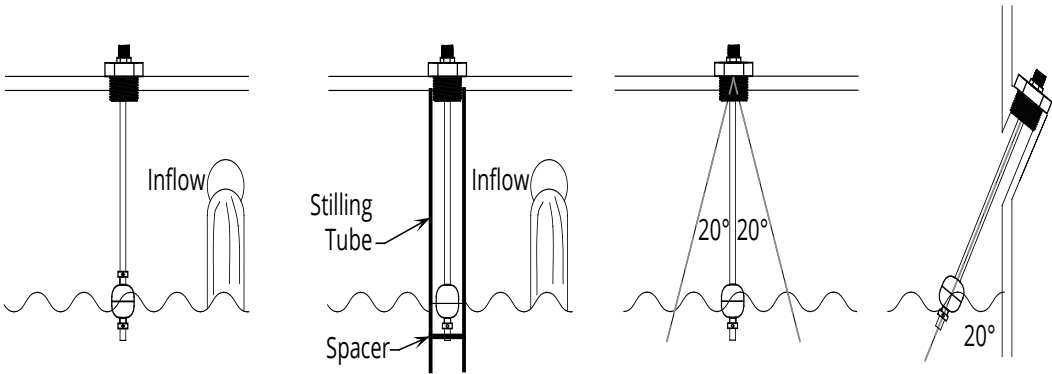

Figure 5.1
- If there is surface wave action, then use a time-delay relay or stilling tube. If a stilling tube is used, drill vent holes in the tube and use a spacer to assure the float has free travel inside the tube (See Figure 5.1).